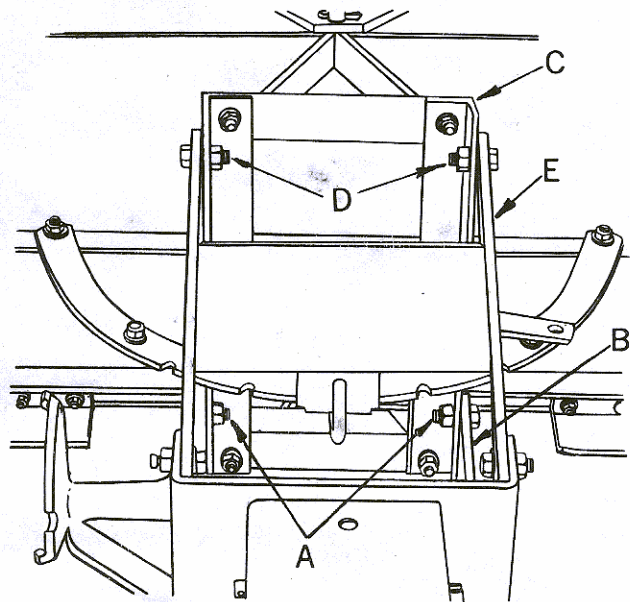

FIGURE 2
1. Assemble lower frame (B) to front frame (C) with 2-7/16 x 1/4 hex bolts, flat washers, bushings and lock nuts found in plastic bag.
NOTE: Bolts, flat washers, and bushings will go through lower frame (B) then through front frame (C), and lock nuts to inside as shown in Figure 2.
2. Refer to Figure 2. Assemble upper frame (E) to front frame (C) with 2-7/16 x 1/4 hex bolts, flat washers, bushings, and lock nuts (found in plastic bag) in same manner as lower frame (B) was assembled. Tighten all nuts securely.